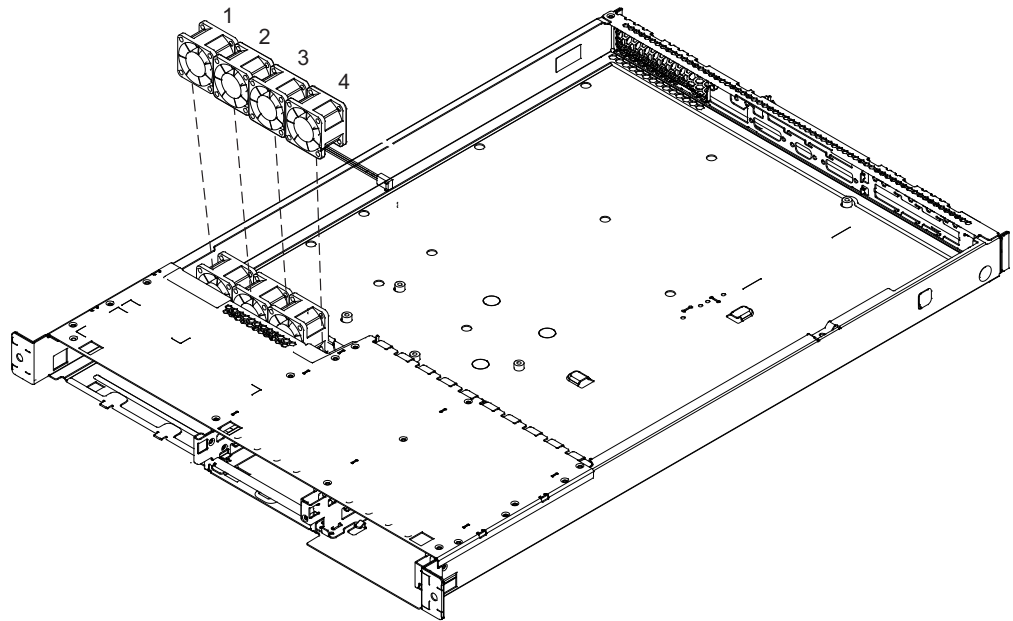

Figure 178. SAN Volume Controller 2145-4F2 microprocessor fan locations
1. Push the fan downward into the retaining clip. Figure 178 shows the location of the fans and the retaining clips.